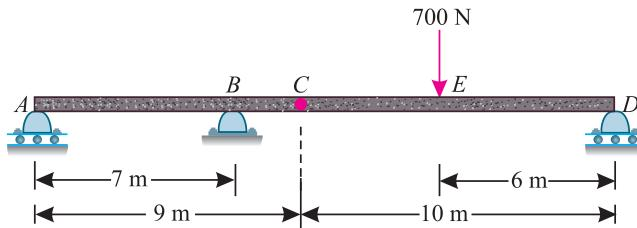

Fig. 16.4.
**Example 16.2.** Two beams  $AC$  and  $CD$  of length 9 m and 10 m respectively are hinged at  $C$ . These are supported on rollers at the left and right ends ( $A$  and  $D$ ). A hinged support is provided at  $B$ , 7 m from  $A$  as shown in Fig. 16.4.